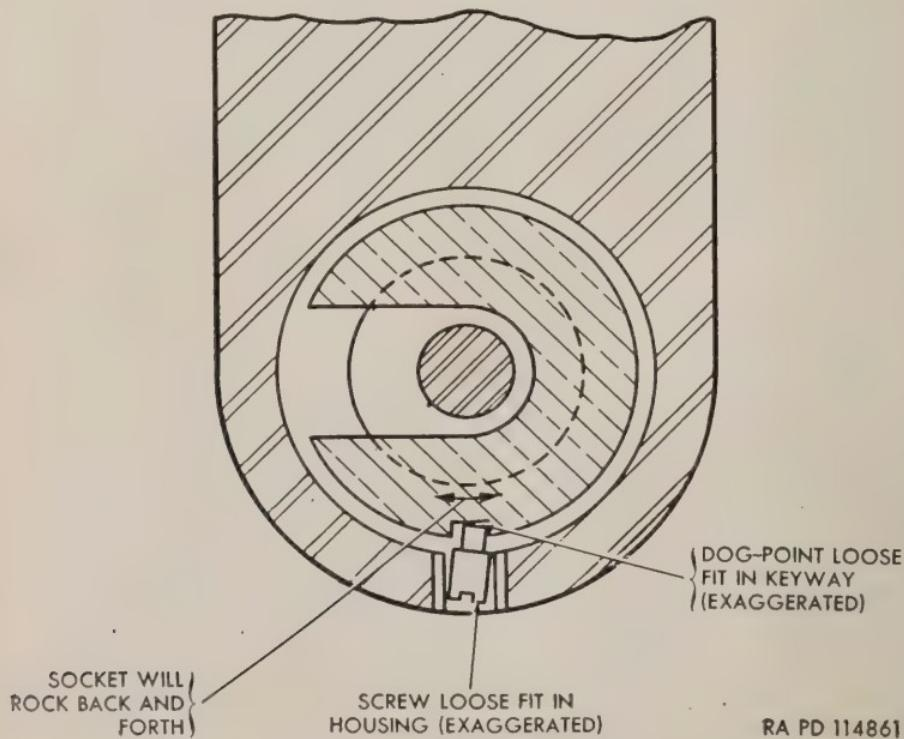

Figure 24. Dog-point screw loose in threads in housing.
a. This is something that can be felt when the worm knob is held between the thumb and forefinger and turned back and forth a few mils. Every time the rotation of the knob is reversed, the movement is loose for a short distance (1 to 3 mils) until a click or bump is felt in the knob when the lost motion has reached its limit. The reason for this is that, the dog-point setscrew is fitting loosely in the threads in the housing, or the dog point fits loosely in the groove in the socket, or a combination of both (fig. 24). Every time the motion of the knob is reversed, the socket will move in the housing until the dog-point screw has cocked over to the other side. Once it is started, this clicking will grow progressively worse. This condition cannot be permitted to exist, because the loose spot is always at the setting point. Turn the knob in the opposite direction from which it was brought to the setting point, or fire the gun, and the instrument will be "off" the target. This loose spot in the movement is *not* lost mo-